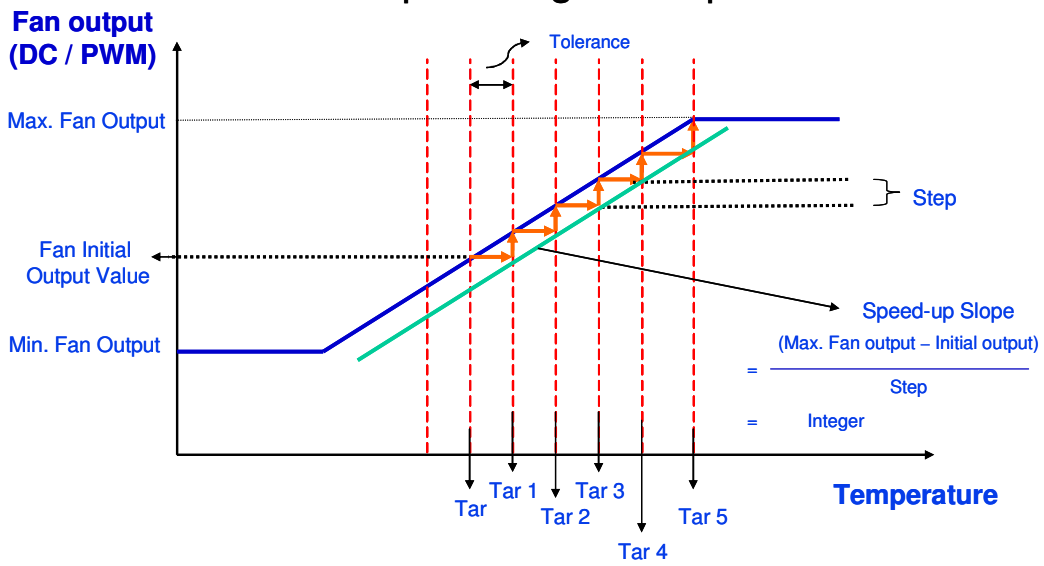

Figure 7.10
- (2) In the case that currently measured temperature goes beyond (Target Temperature + Temperature Tolerance), which is shown in Figure 7.10, fan speed jumps up to the next step. “Step” here refers to the value in the CPUFANOUT Output Value Select Register, Bank0 Index03h or Index61h.
- (3) Meanwhile, original Target Temperature dynamically shifts to (Target Temperature + Temperature Tolerance), and new Target Temperature, named Target Temperature 1, is formed. In other words, Target Temperature 1 equals original Target Temperature plus Temperature Tolerance.
- (4) If the currently measured temperature is within the (Target Temperature 1 \pm Temperature Tolerance) then, the fan speed remains constant. Otherwise, fan speed jumps up to the next step again. Target Temperature then dynamically shifts to (Target Temperature 1 + Temperature Tolerance), and new Target Temperature again, named Target Temperature 2, is formed.
- (5) The fan-speed-up and Target Temperature comparison-then-shift process continue until currently
(6) Please be noted that “Speed-up Slope” shown in the Figure 7.10 must be an integer. In other words, $\frac{Max.FanOutput - InitialOutput}{Steps}$ must be an integer; otherwise, it may lead to register overflow.